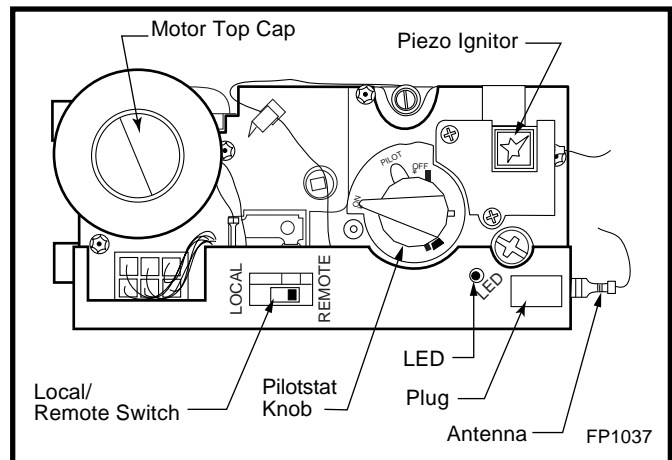

Fig. 64 Comfort control valve.
3. Remove and replace plug on lower right hand side of the valve; Red for LP and blue for NG. (Fig. 64)